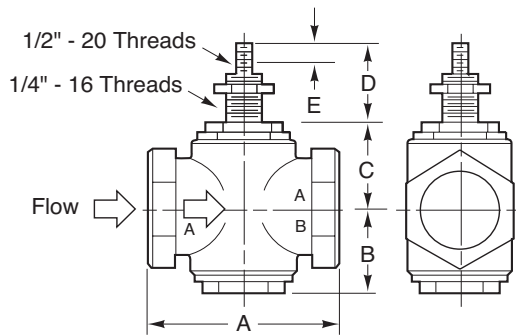
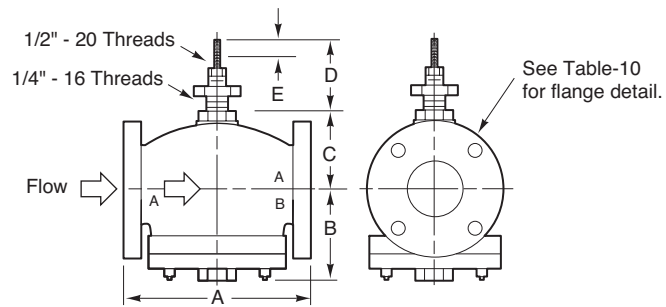

Figure-6 Typical of VB-9223-0-4-P, 2-1/2" and 3" Valve Bodies.
Figure-7 Typical of VB-9223-0-5-P 2-1/2" to 6" Valve Bodies.
**Table-9 Dimensions for VB-9223 Series Valves (Figure-6 and Figure-7).**